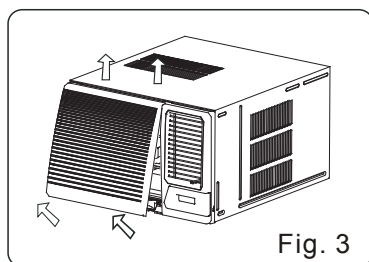

Fig. 3
1. Hold the slot under the front panel, then uplift it outwards, and remove the front panel (See Fig.3).